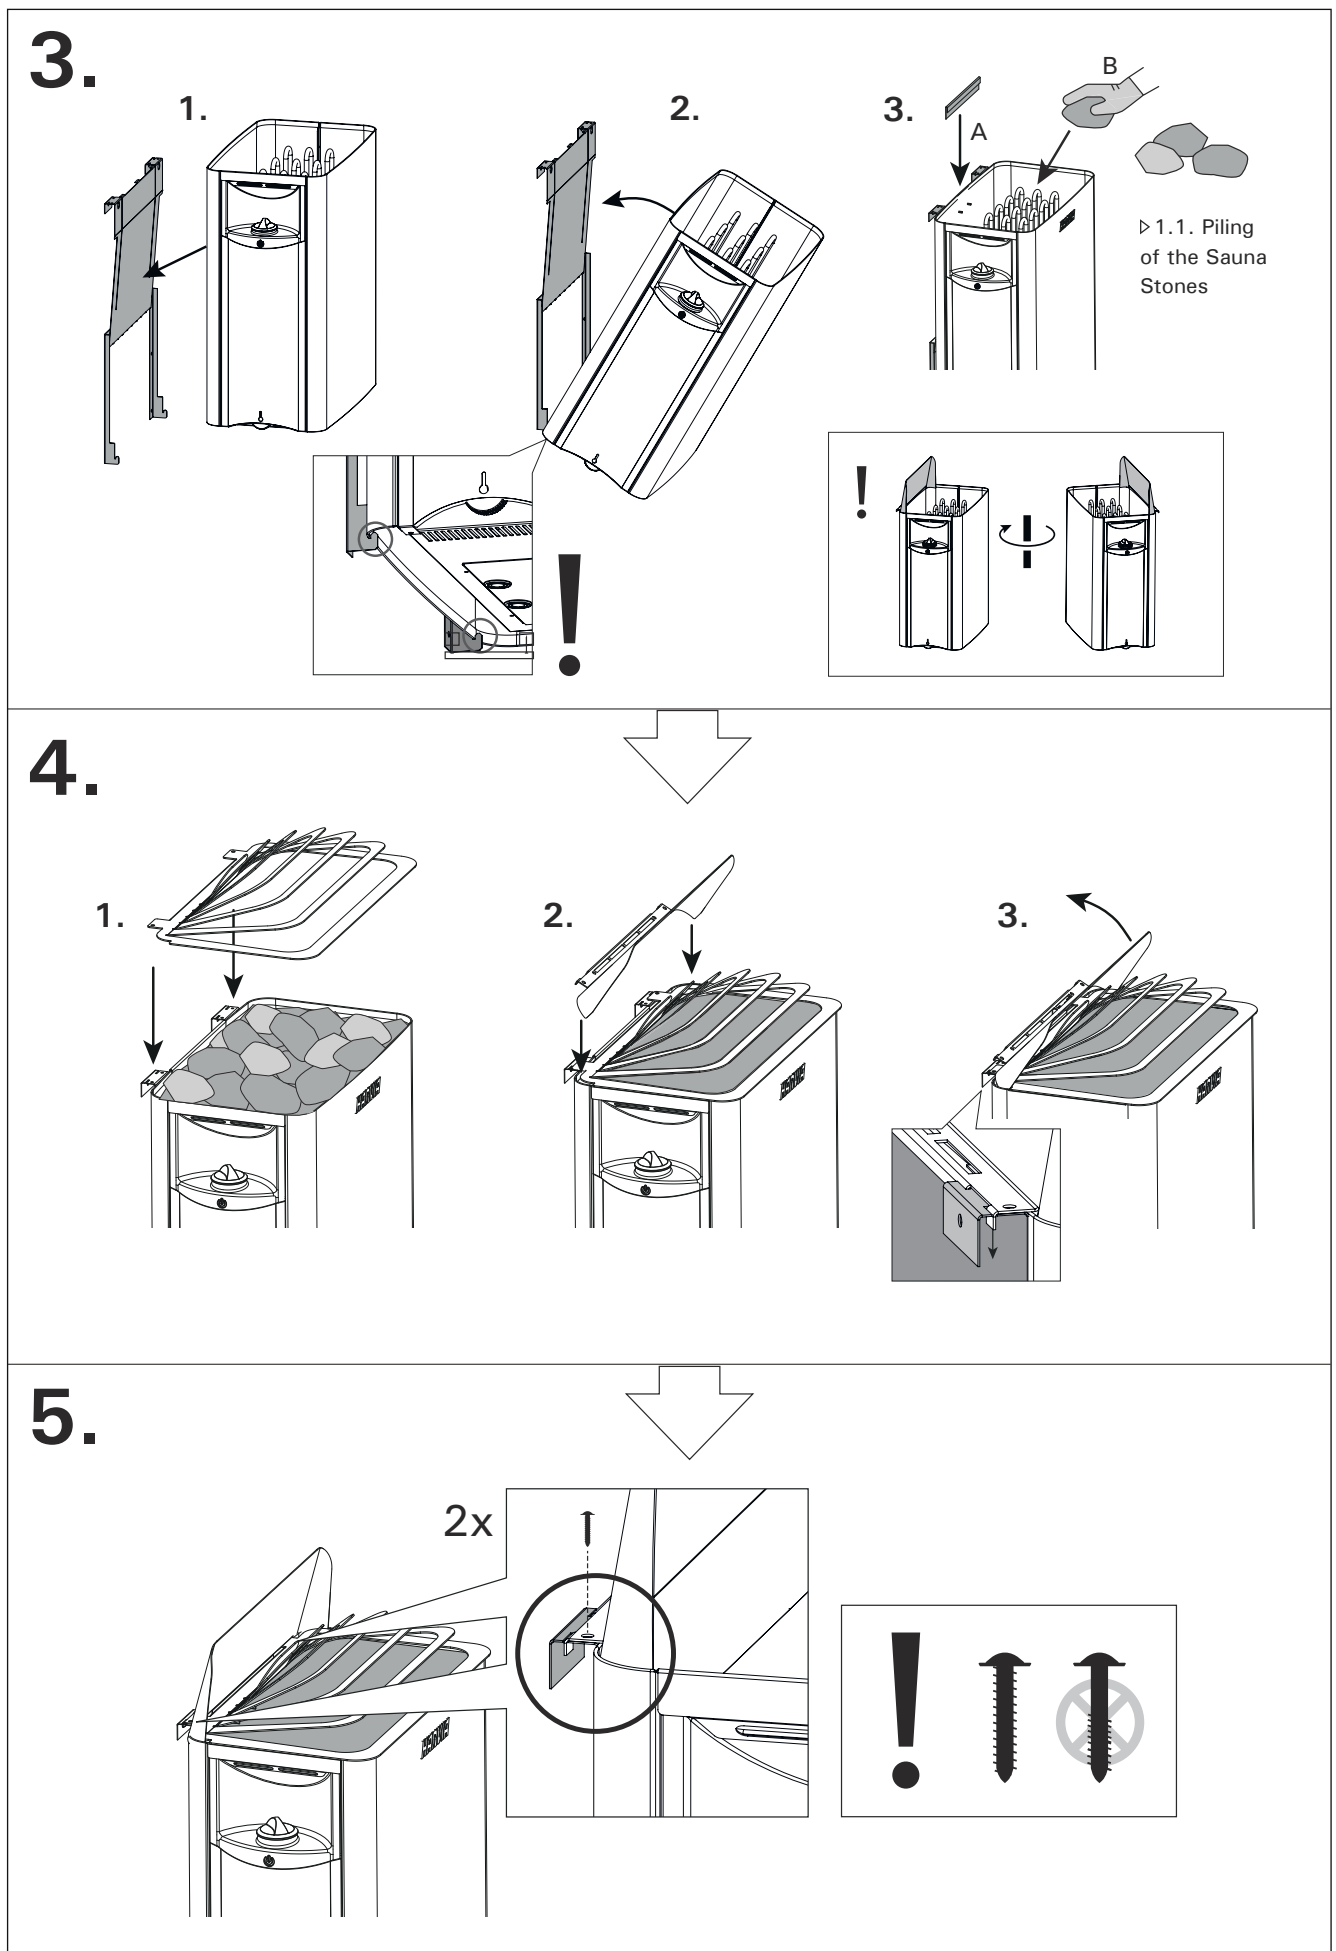

Figure 7. Installing the wall-mounting device (2.) and the heater (3.-5.)
Prior to installing the heater, read all the instructions for installation (figure 7), as well as checking the following points:
1. Connect the supply cable (fig. 7:1) to the heater.
3. Lift the heater into the mount and make sure it is centered (figure 7:3). Install mounting bracket (A) and pile the sauna stones (B) according to instructions (► 1.1.).
4. Install the safety guard (fig 7:4:1) and steam guide (7:4:2-3) to the heater and the wall mount.
5. Secure the heater to the wall mount by screwing two screws behind the steam guide (figure 7:5).